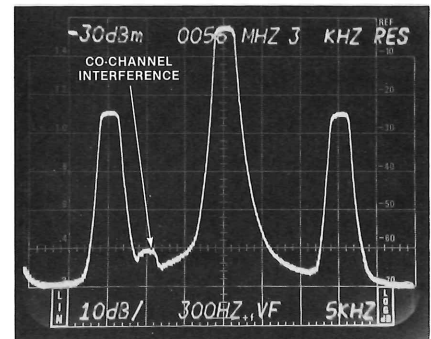

Figure 5-4. Low level interference measurements can be made by using storage, slow sweeps and video filtering.
1. The use of video filters and slow-sweep speeds coupled with CRT or digital storage produces very clean traces (figure 5-4). The digital storage capability of the 7L14 is very effective in the co-channel interference measurement. Slow the sweep, use a video filter and position the PEAK/AVERAGE cursor at the top of the screen so the entire display is in the AVERAGE mode.
3. Co-channel carriers can occur on either side of the picture carrier and as far away as 20 kHz depending on station offset as illustrated in figures 5-4 and 5-5.